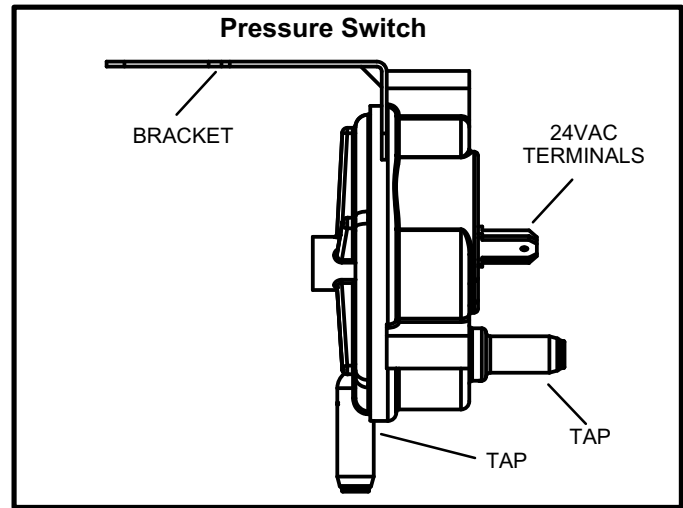

FIGURE 15
9. Combustion Air Pressure Switch (Figure 15)